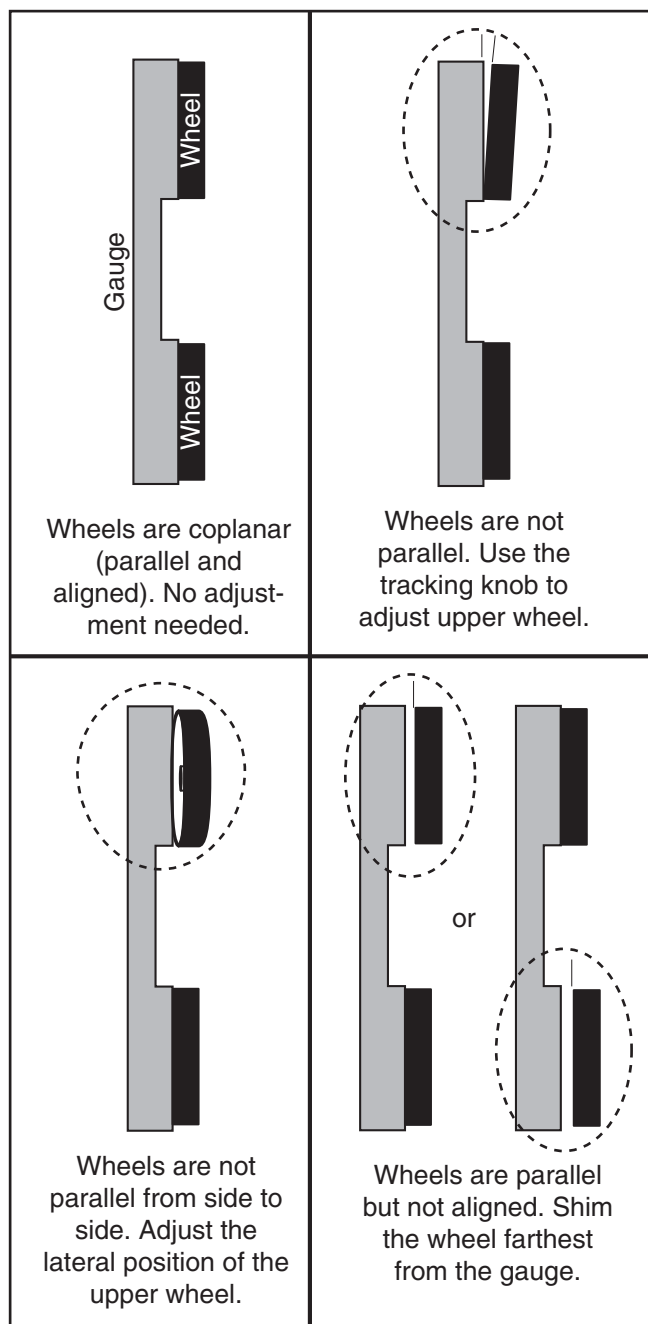

Figure 60. Various wheel alignments.
Wheel alignment is important for optimal performance from your bandsaw. Wheels are properly aligned when they are parallel with each other and in the same plane or “coplanar” (see the illustration in **Figure 60** on the next page).
1. Make one edge of the 2x6 board completely straight (typically with a jointer), then cut out a slot in the middle to compensate for the cabinet (see the illustration in **Figure 60** for an example).
5. Hold the coplanarity gauge close to the center of both wheels, making sure that the gauge fully extends across the wheels as shown in **Figure 60**. Also, check the alignment on the left and right side of the wheels.